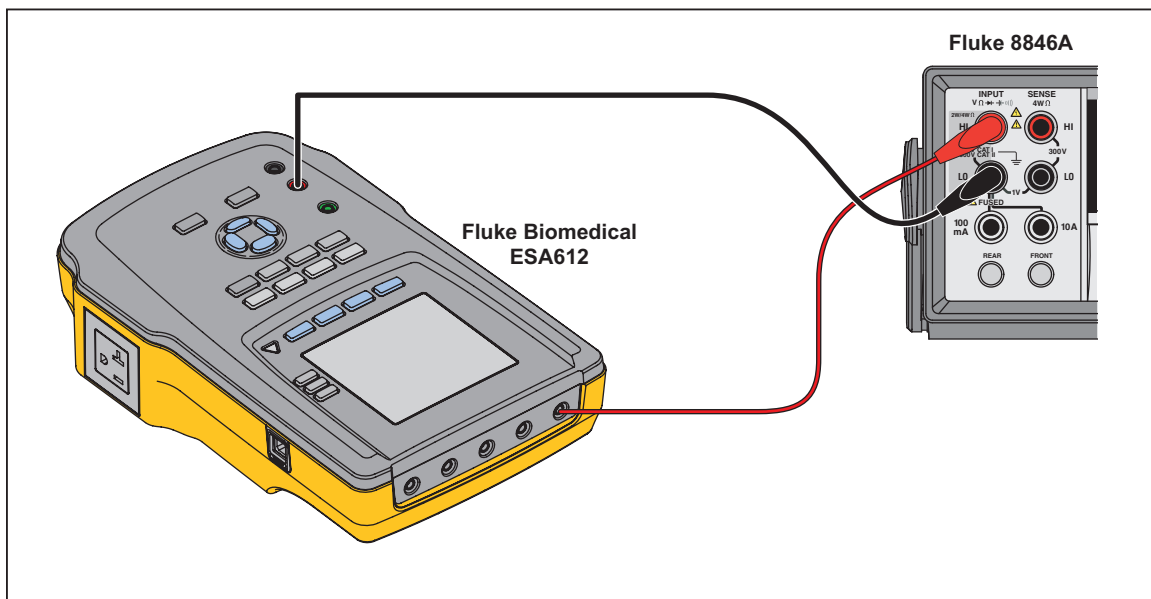

Figure 3-32. Insulation HV Calibration Connections
1. Connect the DMM to the RA applied part and the red jack as shown in Figure 3-32 and set it for the 1000 V dc range.